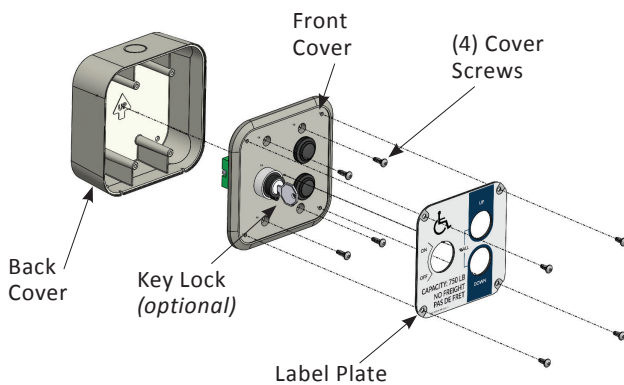

Figure 4-20
1. Remove four (4) label plate screws and label plate. *See Figure 4-20.*